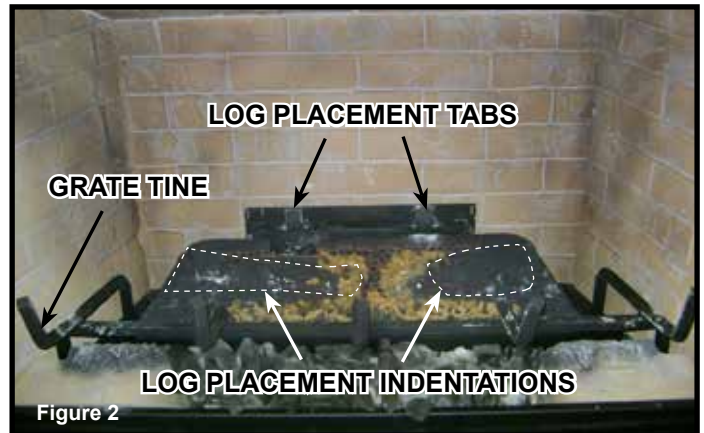

Figure 2
**Log #1 (2170-721):** Locate log placement tabs on the pilot cover. Bend tabs upward as shown in Figure 2. Tabs should be in a vertical orientation. A pliers may need to be used. Locate log placement slots on the bottom of Log #1. See Figure 3. Mate slots located on the bottom of Log #1 with the log placement tabs on the pilot cover. Log #1 is properly installed when it sits squarely and completely on the pilot cover with log placement tabs engaged. See Figure 4.